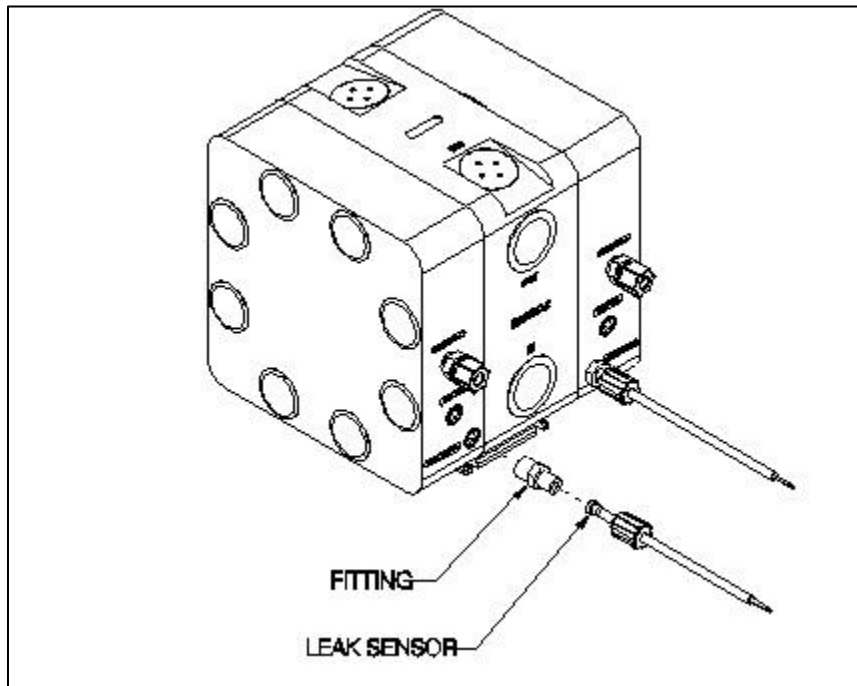

Figure 2-3
- Install 3/8 NPT leak probe fitting into port. See Figure 2-3 for illustration.